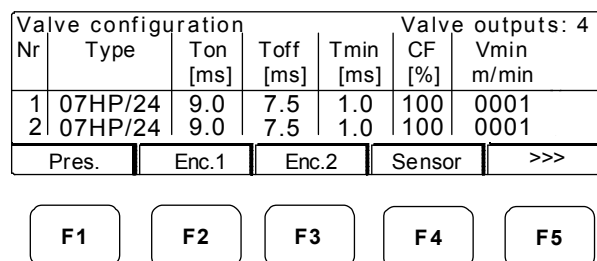

Figure 8-3. Setup Menu
2. The control is delivered with a preset PIN code of “123”. Enter “123”. The setup menu screen displays (Figure 8-3).